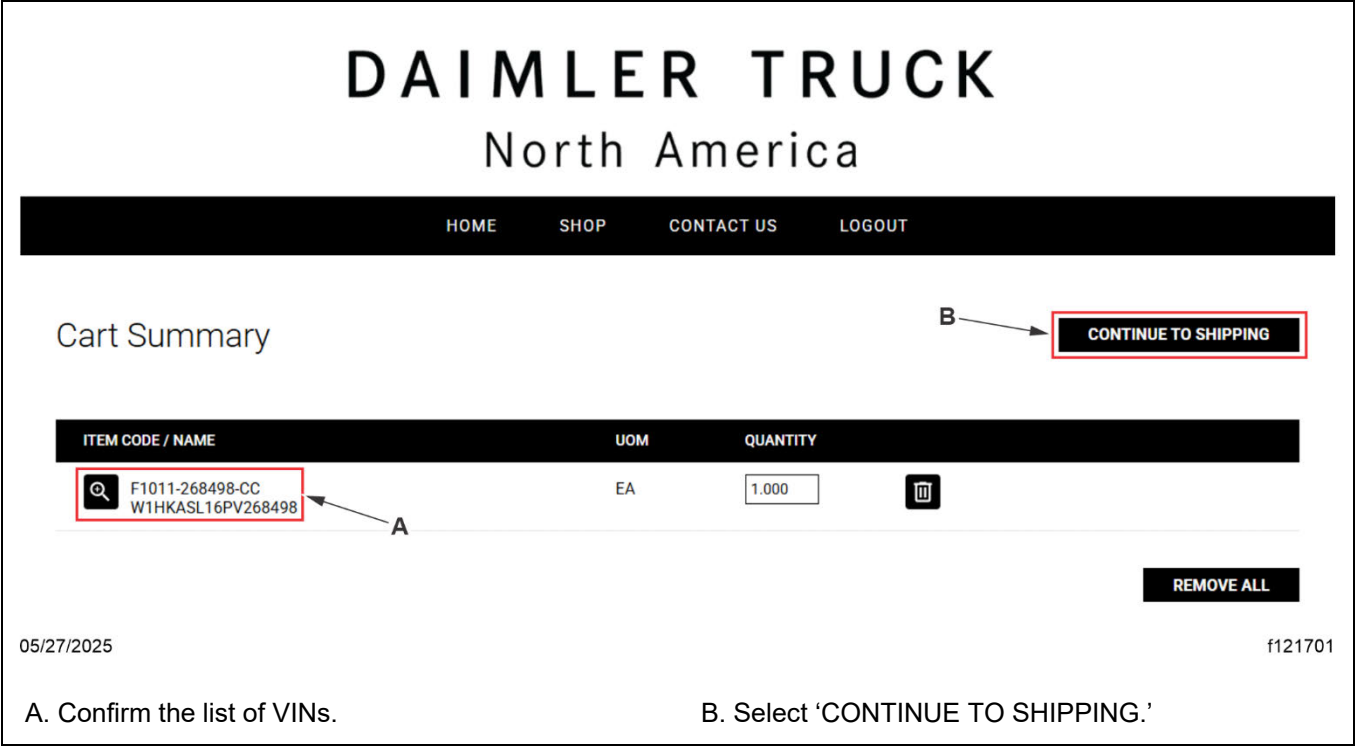

Fig. 8, Cart Summary
9. Confirm the list of VINs, then select ‘CONTINUE TO SHIPPING.’ See Fig. 8.